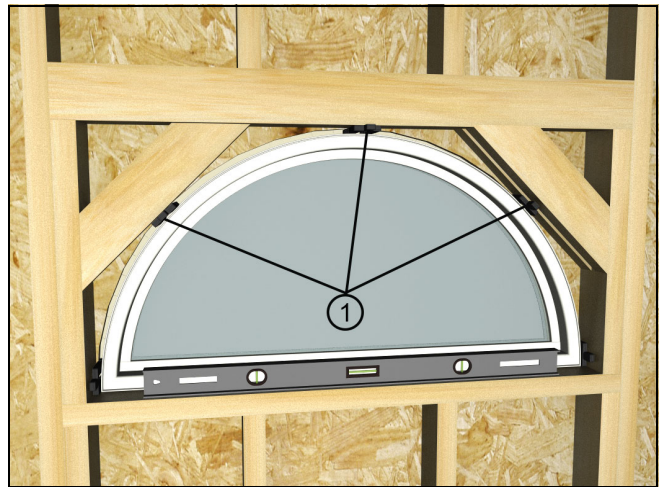

Figure 24
6. On round tops and other non-rectangular shapes, make sure to shim at bracing locations. See Figure 24.